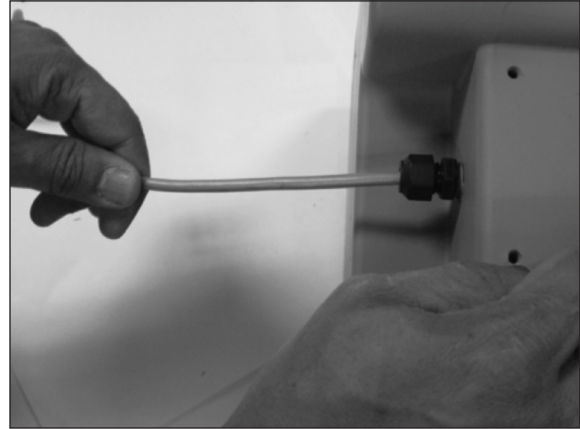

Figure 9.21 - Pull pulse output cable through gland
- Pull the pulse output cable all the way through the cable gland as shown in Figure 9.21 to ensure the cable is not pinched.